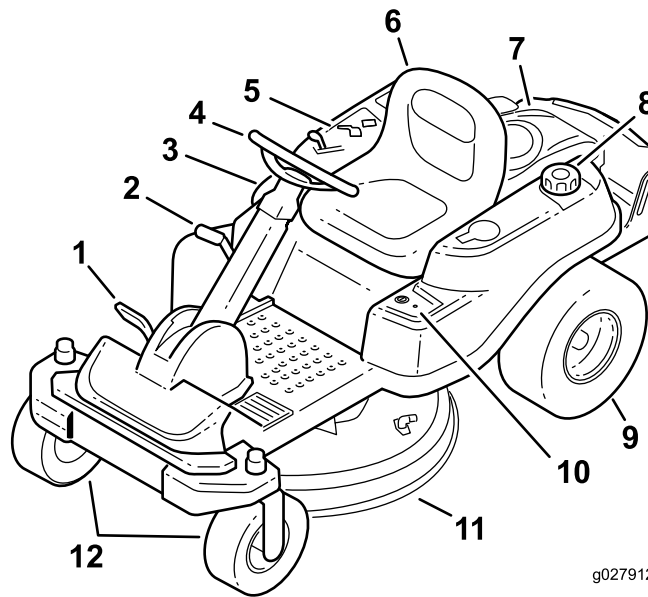
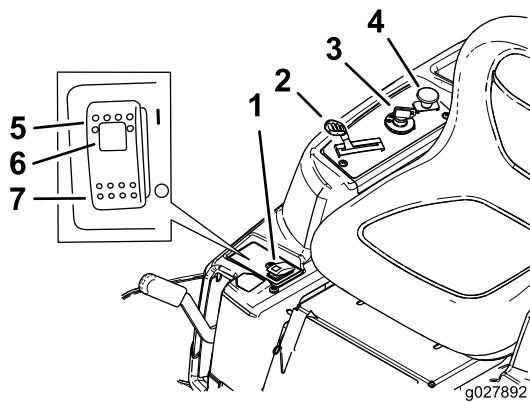

Figure 4
Figure 5
Become familiar with all controls in Figure 4 and Figure 5 before you start the engine and operate the machine.
The ignition switch has 3 positions—OFF, RUN and START. The key will turn to START and move back to RUN upon release. Turning the key to the OFF position will stop the engine; however, always remove the key when leaving the machine to prevent someone from accidentally starting the engine (Figure 5).
The throttle and choke are combined into one control lever. The throttle controls the engine speed and it has a continuous variable setting from Slow to Fast. Engage the choke by moving the lever past the Fast setting until it stops (Figure 5).
The blade-control switch, (PTO), engages and disengages power to the mower blades (Figure 5).
- Pressing the SmartPark™ switch to the ON position (Figure 5).